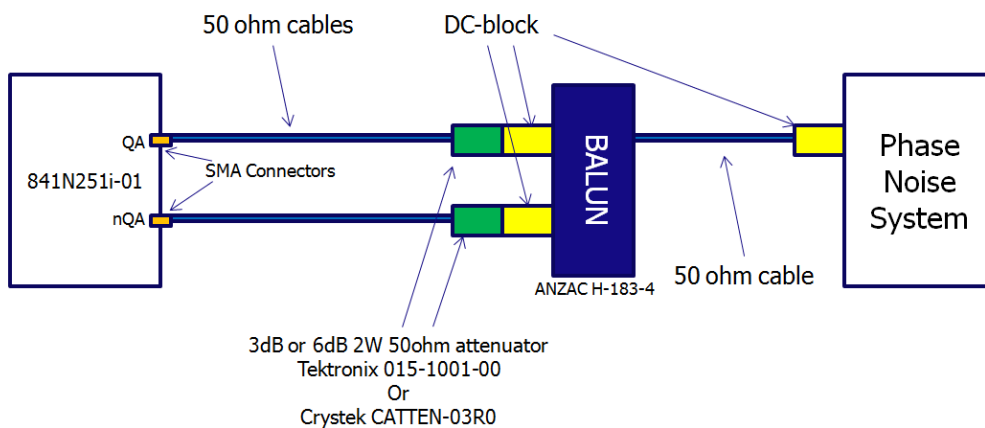

Figure 1. Recommended Setup for Measuring Phase Noise of a Differential Signal
- Figure 1. Recommended Setup for Measuring Phase Noise of a Differential Signal 2
Figure 1 illustrates the recommended setup for measuring phase noise of a differential signal. Ideally, the device under test will have SMA connectors available. Cables with 50Ω impedance are connected to the output SMA of the device on one end. The other end of each cable is connected to a 50Ω series terminator and then a DC-block into the balun. The 50Ω terminators provide a matched load impedance. The DC blocks then AC-couple the signal into the balun. The single-ended output of the balun is then AC-coupled into the phase noise system. The AC-coupling in the last stage is important because phase noise systems do not support signals with DC offsets. Typically, phase noise systems provide an internal 50Ω termination. If the phase noise system does not have an internal 50Ω termination, then it is recommended to use a 50Ω series terminator.